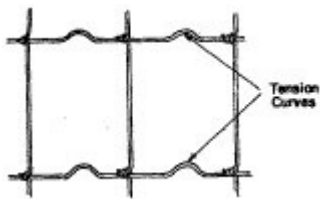

Figure 3
5. Stretch the fence slowly, making sure tension is being applied evenly to all points. Continue stretching until tension curves in the wire are straightened about one-third (Figure 3).